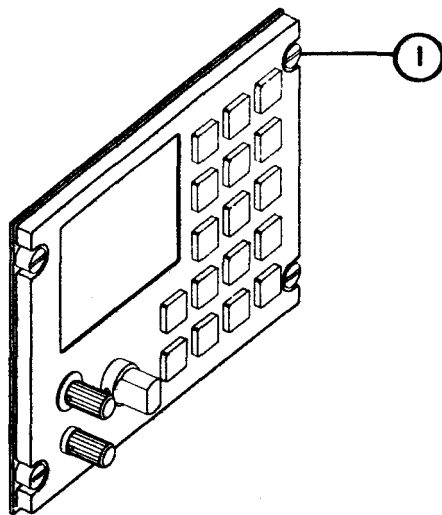

Figure 3-1. Control-Display Panel
1. Refer to figure 3-1. Loosen four captive retaining screws (1) on front panel of control-display with flat tip screwdriver.
2. Refer to figure 3-1. Tighten four captive retaining screws (1) on front panel of control-display with flat tip screwdriver.